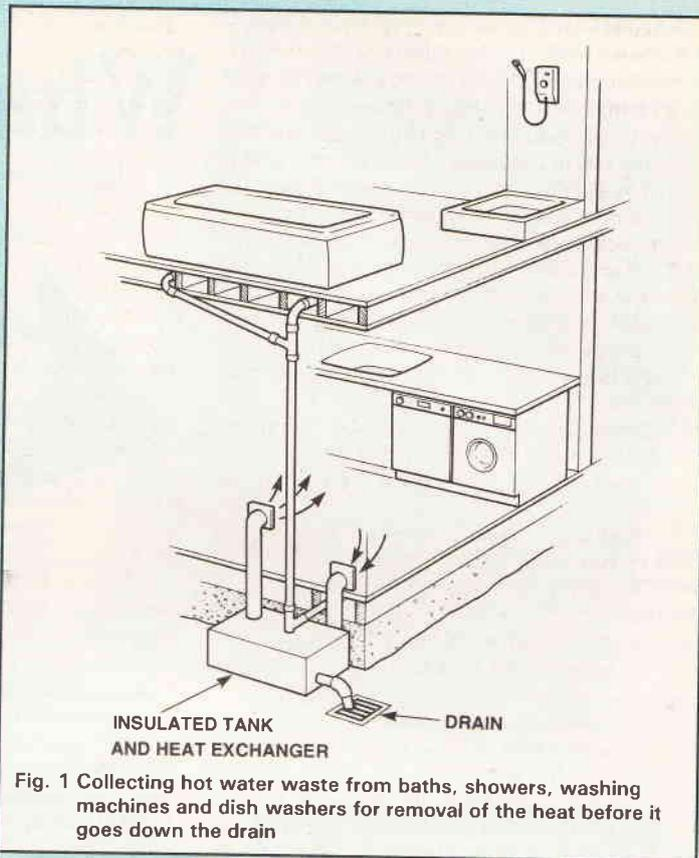

Fig. 1 Collecting hot water waste from baths, showers, washing machines and dish washers for removal of the heat before it goes down the drain
Constant analogue signals can exhibit any value between a defined maximum and a defined minimum: the range of intermediate absolute values is infinite. A meter with high resolution is thus required, typically with a resolution of at least 1%. Constant digital signals exhibit two (or at most, three) ranges of values where the range is the important factor and the absolute value within that range is relatively unimportant. This is shown in Figure 1. The significant choices in digital testing are: HIGH, LOW, UNDEFINED. A beneficial consequence of this is that voltage readings may be made with much lower resolution in digital systems than in analogue. Static (DC) logic
One way to extract the heat from water and thus deprive the rats in the sewer of a nice warm bath is to store it in a central site at ground level (Figure 1). All hot water wastes from baths showers, sinks washing machines and dishwashers, could be fed into the tank. If space is at a premium it could be an idea to build the storage tanks around the bath if space permits with control electronics to discharge the water at room temperature down the drain. If the tank is within the house, heat can be extracted naturally through the use of cooling fins or if heat is to be removed more quickly, a heat exchanger could be installed. The natural place for an insulated tank with heat exchanger is at ground level so all hot outlets can be gravity fed.